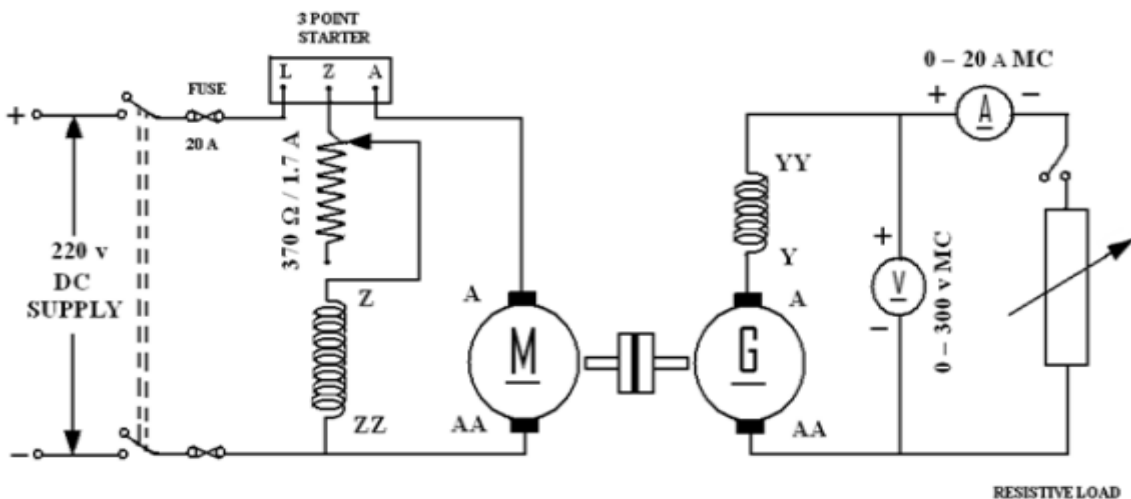

Figure 3 - LOAD TEST ON DC SERIES GENERATOR
1. Calculate the different armature currents (i.e I_a equal I_L plus I_f) for series generator under various Loads In figure 3